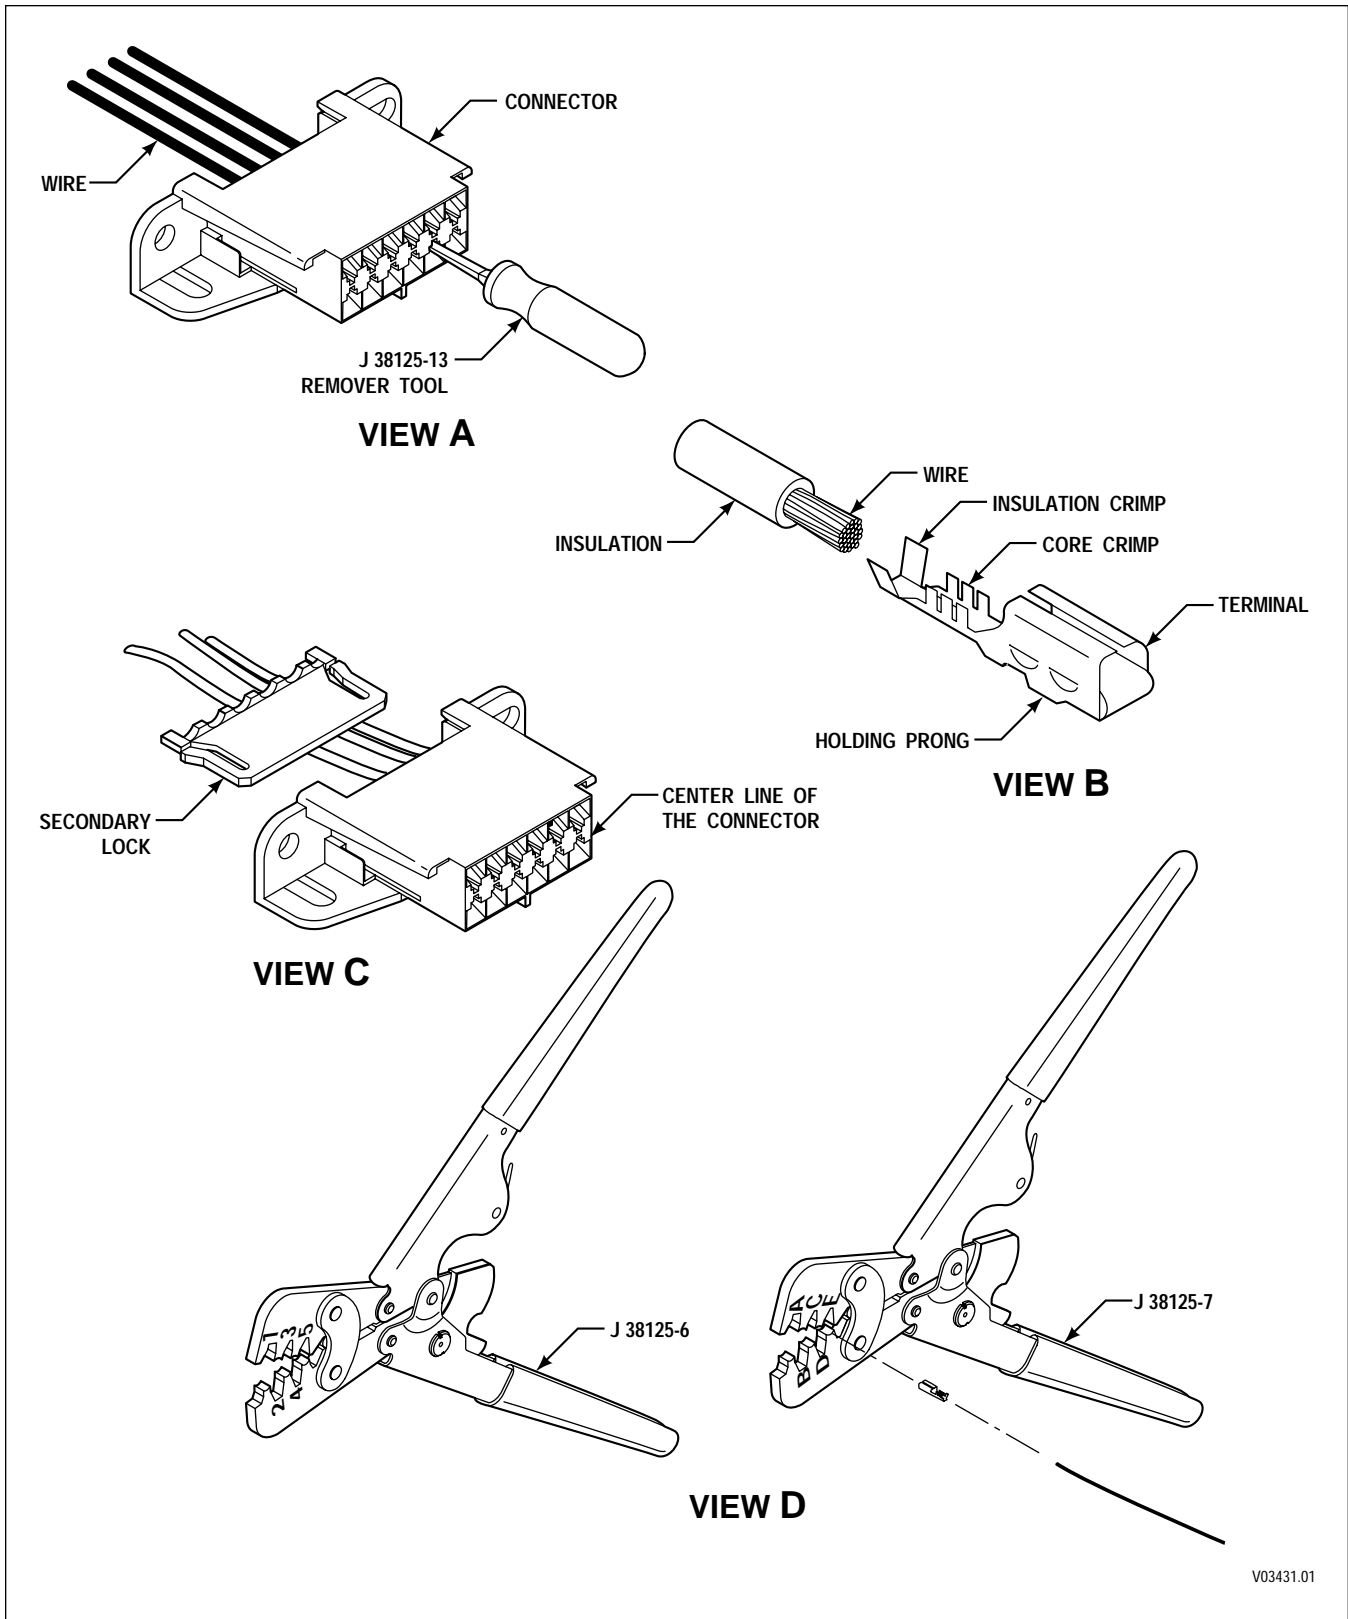

Figure E-6. Delphi-Packard Metri-Pack 280 Series Connectors — Push-to-Seat (DDR)
1. Unlatch and open the secondary lock on the connector (Figure E-6, View A).
2. On the front of the connector, insert remover tool J 38125-10 over the terminal. Push the tool over the terminal and pull the terminal out of the back end of the connector (Figure E-6, View B).
1. Place the wire seal onto the wire before stripping the wire (Figure E-6, View C).
3. Place terminal onto crimping tool J 38125-6 (Figure E-6, View E), anvil “2.”
5. Insert wire so that the stripped portion of wire is in the core crimp area and the insulated portion of the wire is in the insulation crimping area (Figure E-6, View C).
8. Push the wire seal into the terminal (Figure E-6, View D). The second crimp will wrap around the wire seal. This will seal the insulated area of wire.